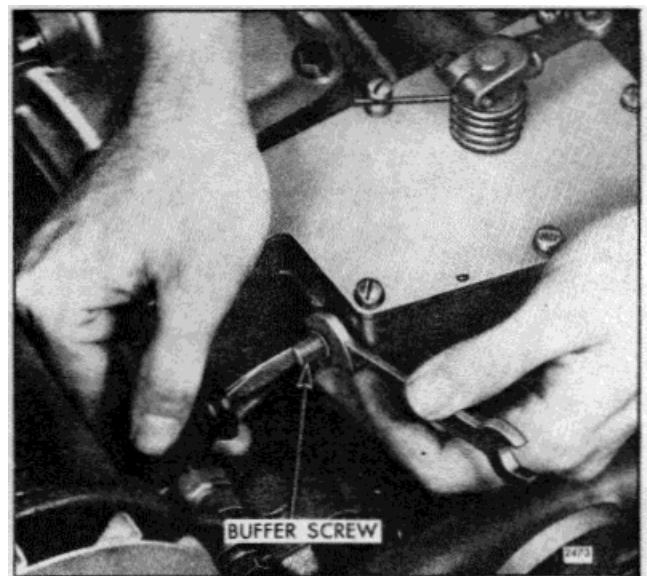

Fig. 6. - Adjusting Buffer Screw
1. With the engine running at normal operating temperature, turn the buffer screw *IN* so that it contacts the differential lever as lightly as possible and still eliminates engine roll (Fig. 6).